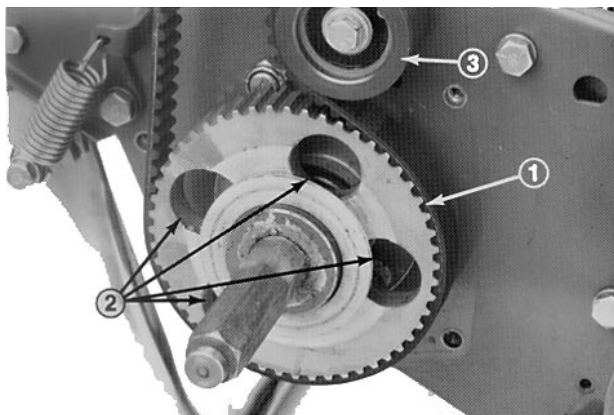

Fig 3.
6. Rotate the drive pulley until the holes align with the (4) roller bearing flange screws (Fig. 3).